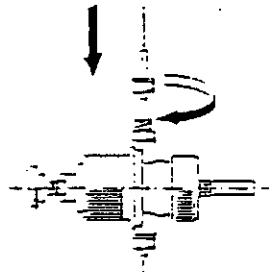

FIGURE 5
1. With Valve mounted as referred to in Section 4.3 Note 4, connect the Luer Lock Fitting at the end of the Dispenser Tube onto the inlet side of (7) Pinch Tube on the 710PTNM Valve with a twisting action (refer to figure 5).
2. Install the Air Line (11) from the valve to an Air Source or optional DISPENSER as referred to in Section 4.3 Note 3 (refer to figure 5).